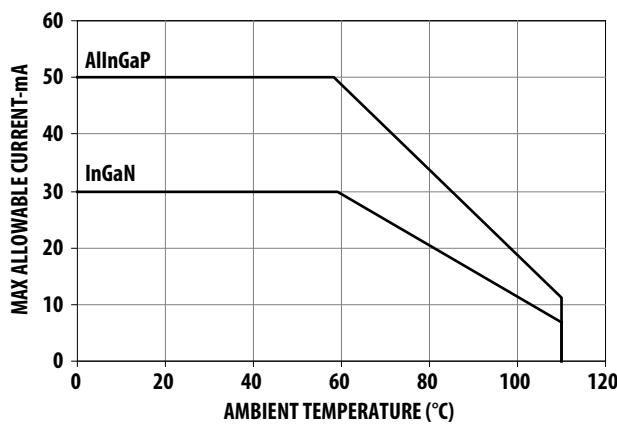

Figure 5 Maximum Forward Current vs Ambient Temperature.
- a. Derate linearly as shown in Figure 4 and Figure 5.
- d. Refer to Figure 4 and Figure 5 for more information.